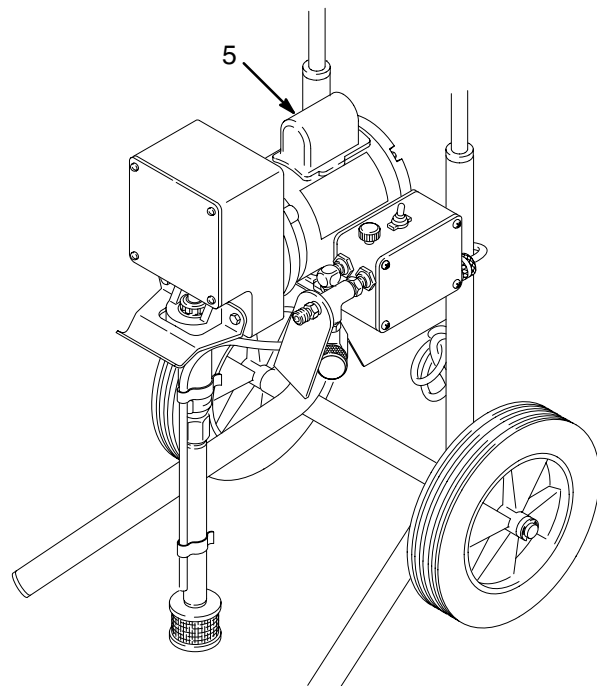

Fig. 11
1. Unplug the sprayer. Remove the cover of the capacitor (5). See Fig. 11.